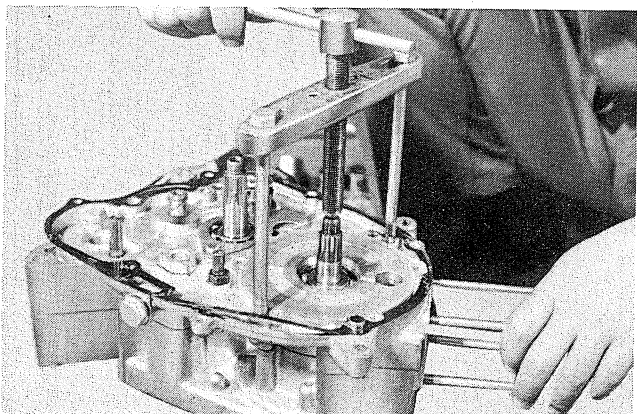

Fig. 3-16-3
- 1) Remove the crankshaft ass'y, with the crankcase disassembling tool. (Fig. 3-16-3)